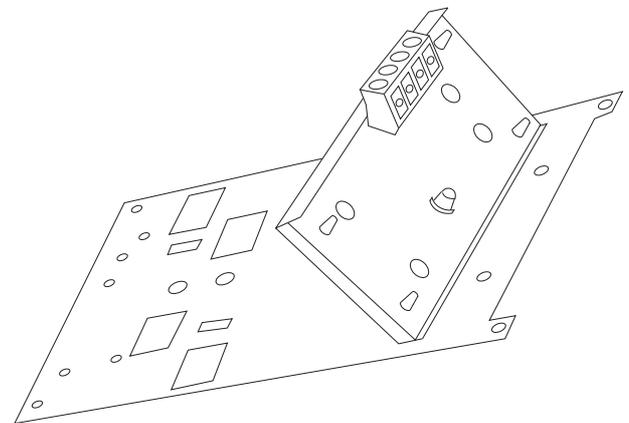

Fig. 20: FC4 10LIM on Ancillary Mounting Plate
- 3 Clip the DIN rail mounting bracket to the mounting plate as shown in Fig. 20.
- 3 Secure using an M3 x 6 mm screw, at Item 2 in Fig. 20 on page 29.